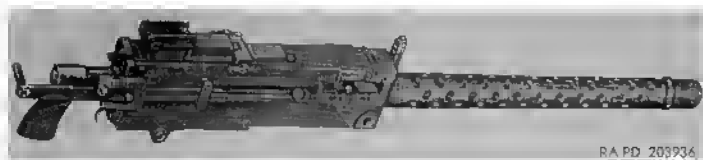

Figure 1. Cal. .30 machine gun M37 (tank)—right-side view.
a. These instructions are published for the information and guidance of personnel responsible for field and depot maintenance of this materiel (figs. 1 and 2). They contain information on maintenance which is beyond the scope of the tools, equipment, or supplies normally available to using organizations. This manual does not contain information which is intended primarily for the using organization, since such information is available to ordnance maintenance personnel in the pertinent operator's technical manuals or field manuals.